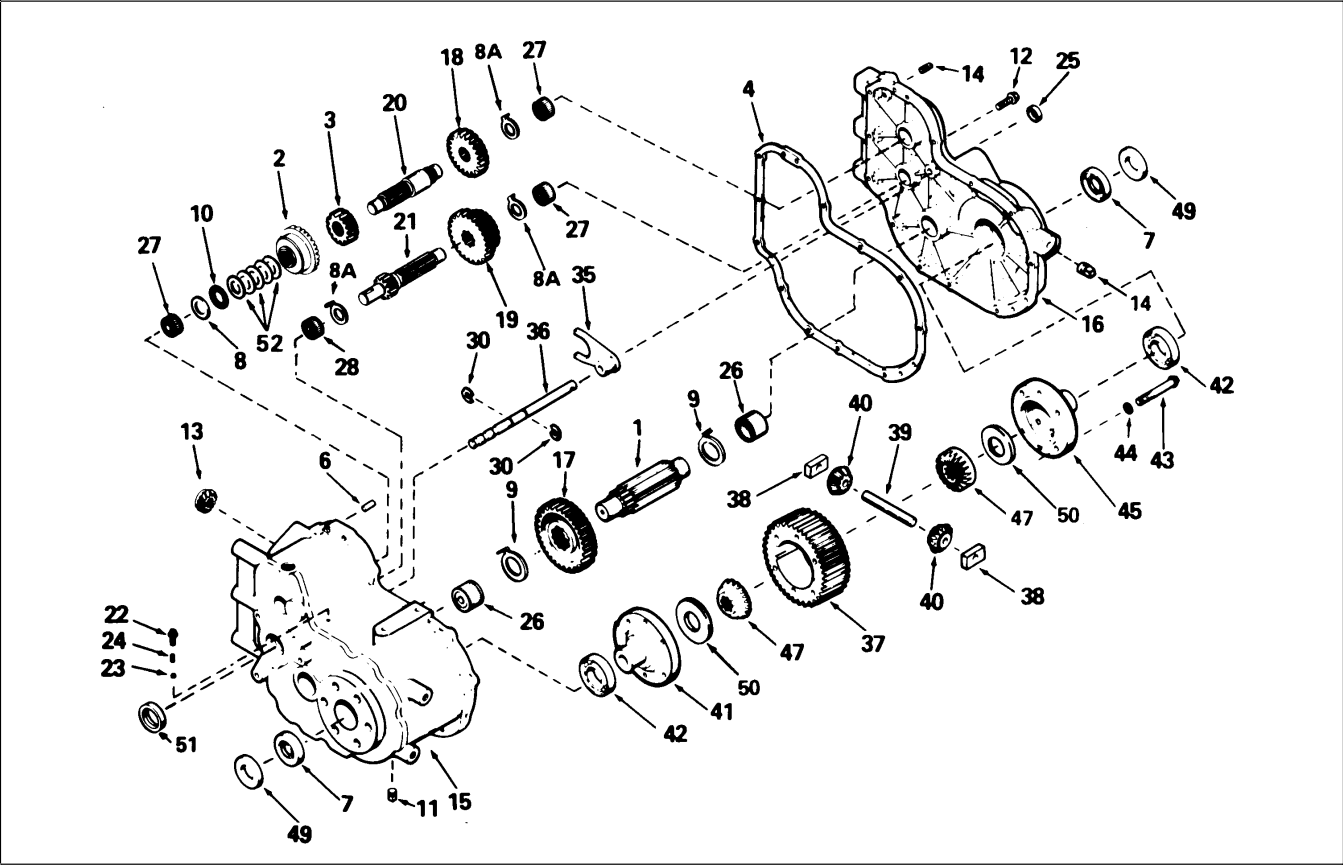

Figure 14
2. Put the transaxle on a work bench with cover side up. Remove screws. Lift cover (Fig. 14, Item 16) off and discard gasket (Item 4).